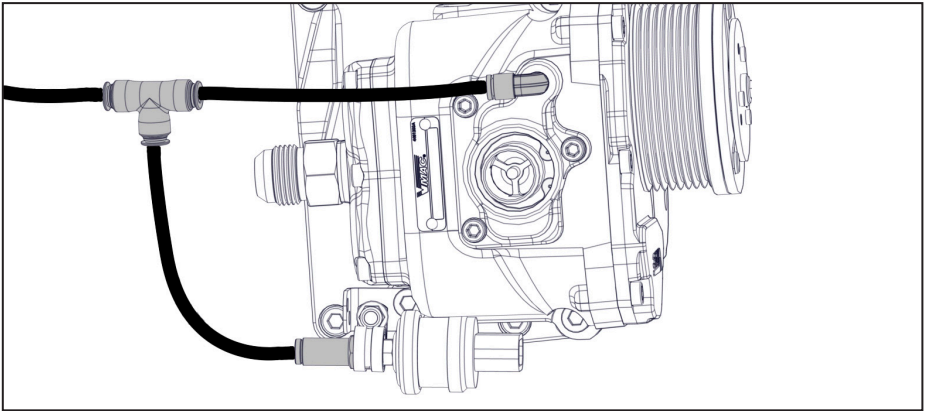

Figure 36 — Install pressure switch
- From the 24 in spool of 1/4 in PTFE tubing, connect the scavenge tube to the compressor, pressure switch assembly, and Union Tee (Figure 36).